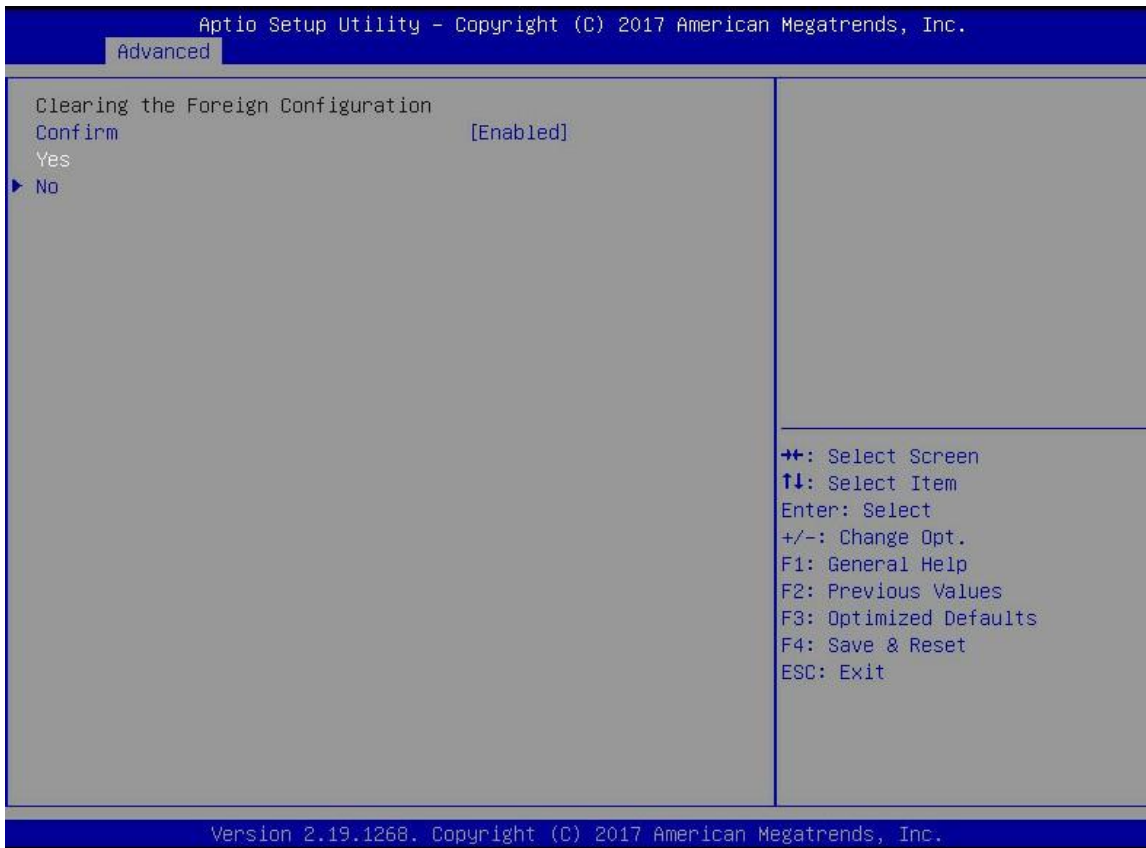

Figure 6-81
e) Enter the interface shown in figure 6-81, select confirm to enable it, select Yes, and press enter.